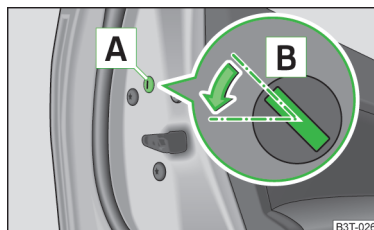

Fig. 190
- Remove the cover **A** » Fig. 190.